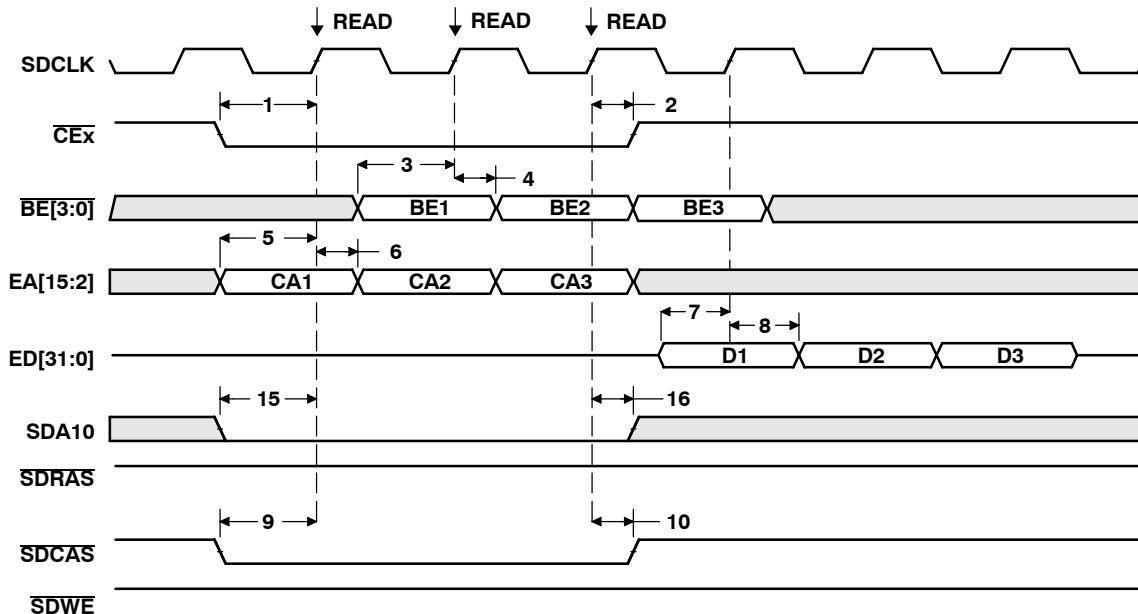
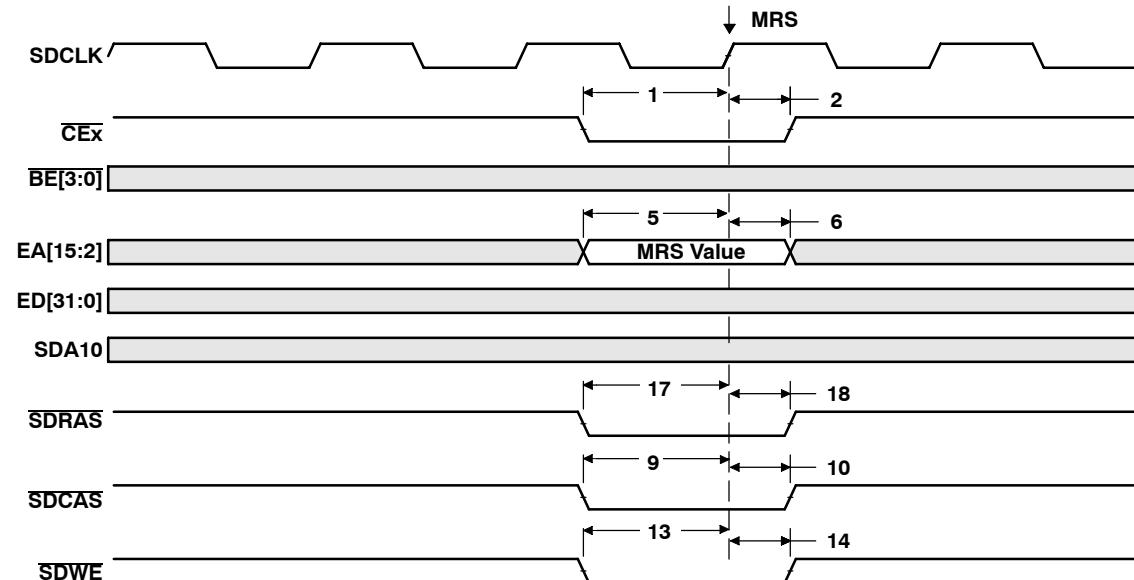

Figure 21. Three SDRAM Read Commands
Figure 26. SDRAM MRS Command
**timing requirements for synchronous DRAM cycles (see Figure 21)**
**switching characteristics over recommended operating conditions for synchronous DRAM cycles† (see Figure 21-Figure 26)**